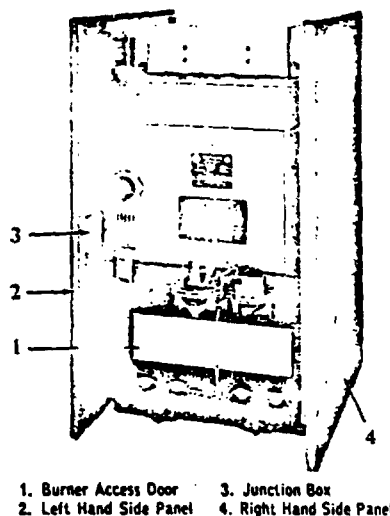

FIG. 13—Assembly of Side Panels
7. Assemble the upper front panel to the side panels with four #10 x 1" sheet metal screws. Assemble the bottom cross tie with two #10 x 1" sheet metal screws. Run the electric line to the junction box, located on left hand side panel, connect wiring and install the transformer on the junction box. Refer to Figs. 13 and 14.